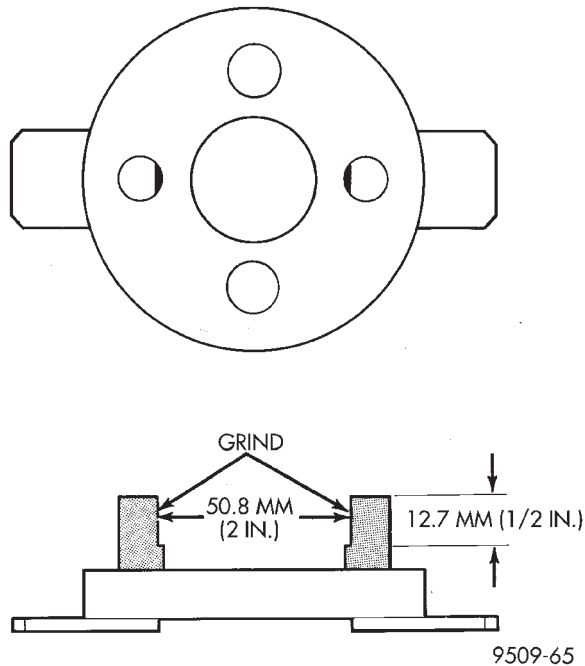

Fig. 66 Modification to Special Tool
(1) Remove timing belt cover and belt. Removal procedure is outlined in this section. Remove camshaft sprocket bolt, with the Modified Special Tool C-4687-1 as shown in (Fig. 66).
(2) Hold camshaft sprocket with modified tool while removing bolt. Remove sprocket from camshaft.
(2) Install camshaft sprocket retaining bolt. Hold camshaft sprocket with Special Tool C-4687-1 (Fig. 66) and tighten bolt to 115 N·m (85 ft. lbs.).